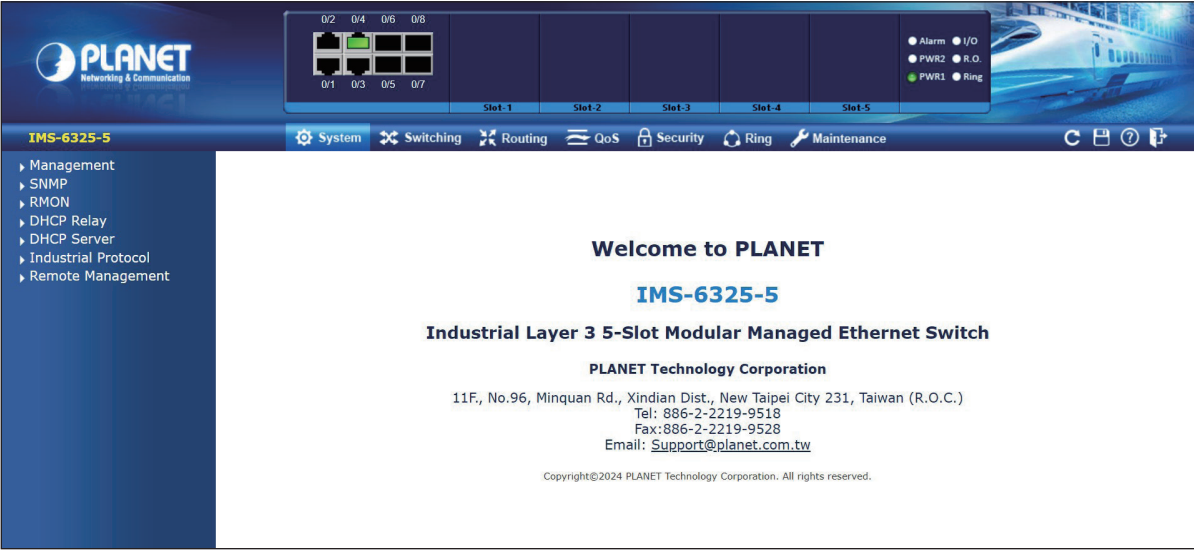

Figure 5-5: Web Main Screen without Installed Expansion Cards
3. Once the password change is complete, re-enter the web interface using your new password and the main screen appears as **Figure 5-5** shows.